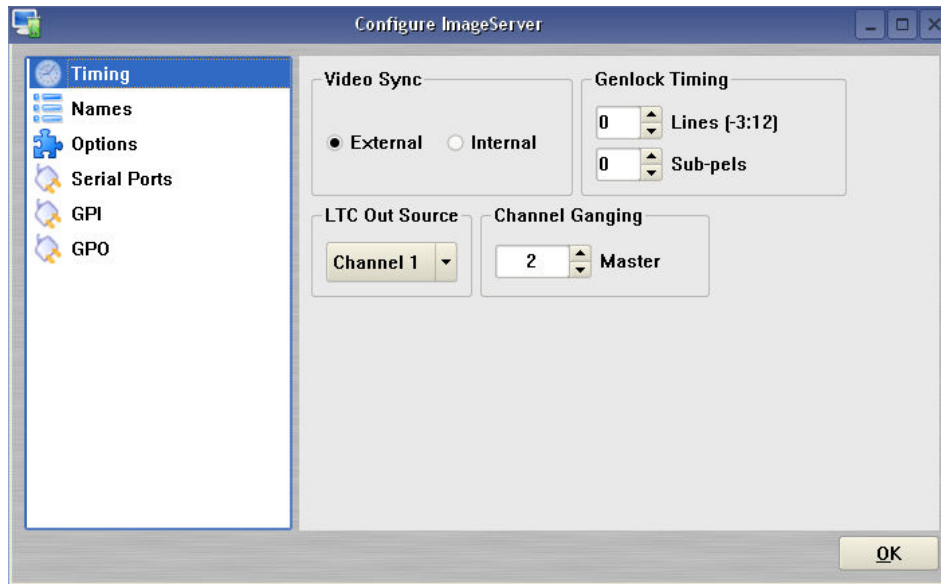

Figure 10 - Timing Configuration Screen
- A. From the main menu bar select **EDIT->CONFIGURE**. The screen of Figure 10 appears. Select the **TIMING** option.